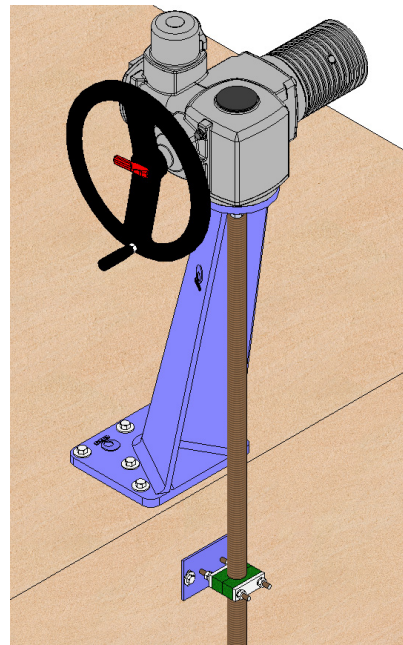

fig. 13
- Tilting stand available on request (Fig. 13).